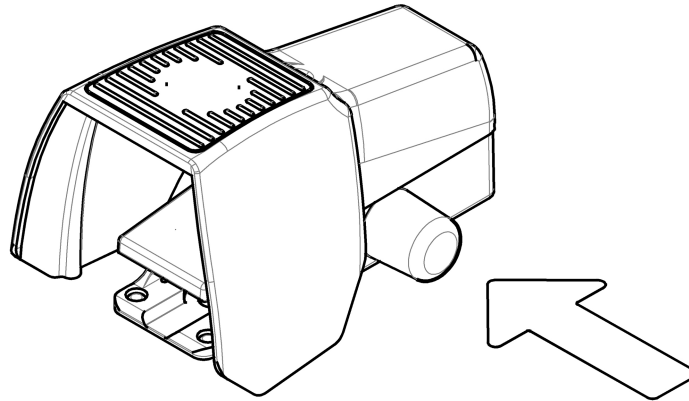

Fig. 4: Releasing the foot-operated switch
- If the emergency stop was initiated using the foot-operated switch: release it by pressing the blue silicone cover at the side of the foot-operated switch (see fig. 4).